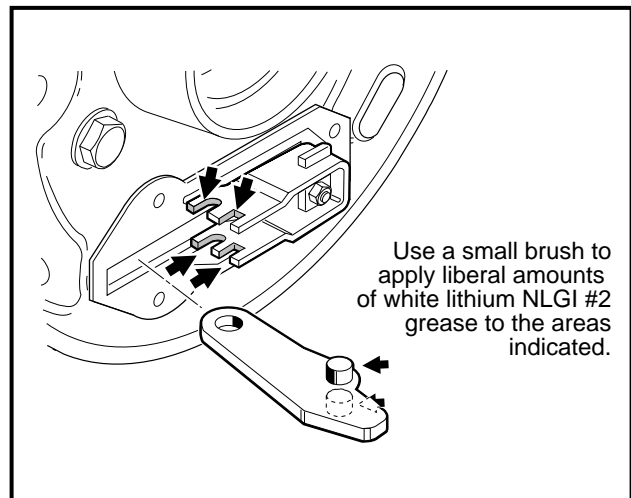

Figure 6-21 Grease Actuator
6. Use a small brush to carefully apply a liberal amount of white lithium NLGI #2 grease (Dow Corning BR2-Plus or equivalent) to the brake actuator assembly as shown (**Figure 6-21, Page 6-9**). See preceding **WARNING**.